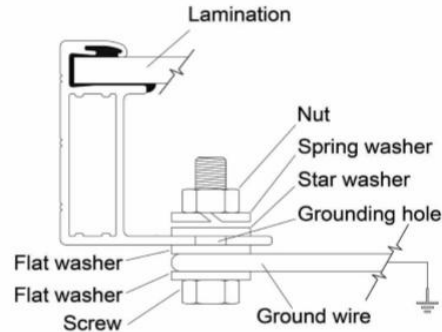

Figure 1
- Use M4 bolt and washers to bond the ground wire and aluminum frame through the grounding holes (as shown in figure 1). The tightening torque is 3-7N.m. All nuts and washers should be made of stainless steel. DMEGC will not be responsible for any solar module defects caused by using the grounding devices.